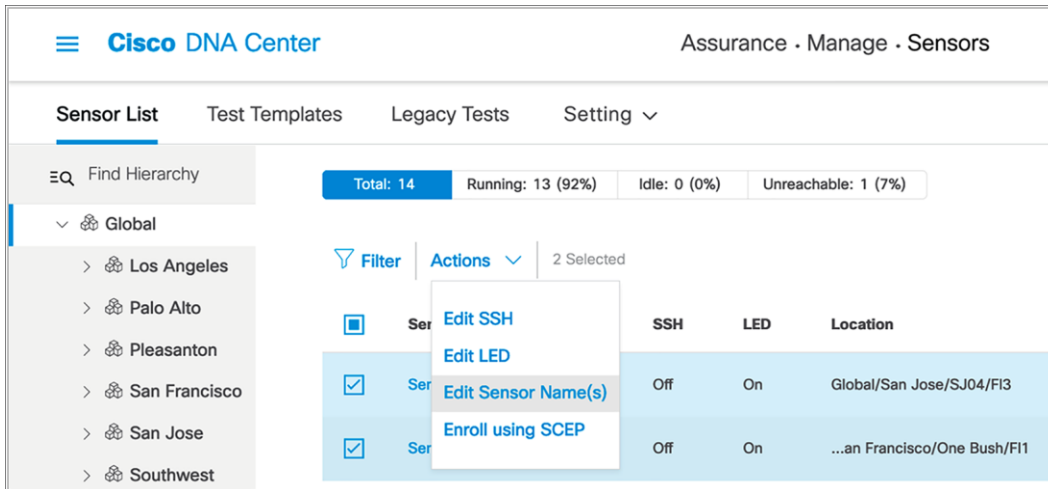

Figure 54.
- If you want to change the sensor name after the PnP claim, go to Assurance > Manage > Sensors, and choose Edit Sensor Name(s) from the Actions drop-down menu (**Figure 54**).